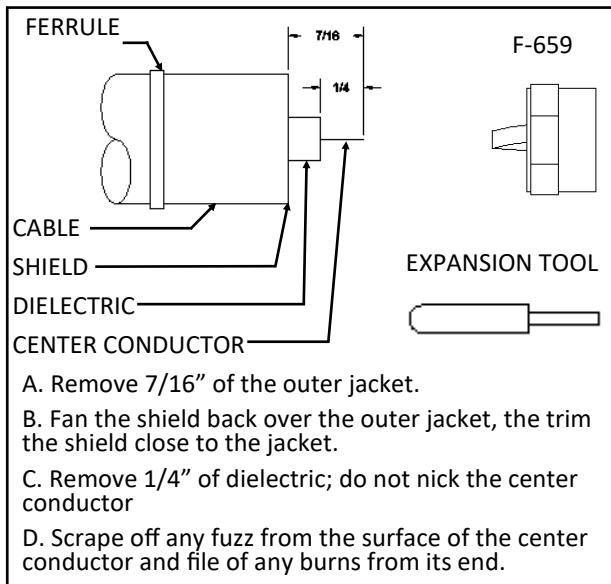

Figure 4: Preparation of Cable
- Prepare cable ends as shown in Figure 4.